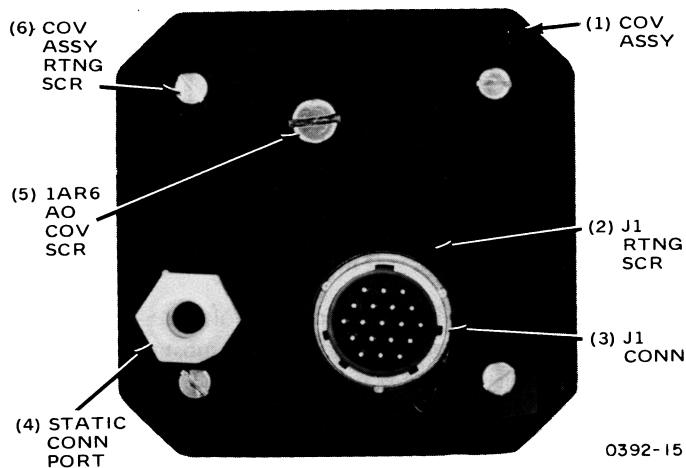

Figure 5-5. Encoding Altimeter Cover Assembly, Rear View
If local altitude is well above sea level, removal of A1R6 cover screw (2, figure 5-5) will cause sudden evacuation of pressure within Encoding Altimeter. Avoid this condition by adjusting Mensor to supply local atmospheric pressure before removing A1R6 cover screw.
- Step 6. If local altitude is at or near sea level, remove A1R6 cover screw. (5, figure 5-5). If local altitude is well above sea level, adjust Mensor to supply local atmospheric pressure before removing A1R6 cover screw. Let Encoding Altimeter dial pointer stabilize after A1R6 cover screw has been removed.
- Step 1. Remove six retaining screws (2, figure 5-5) for connector receptacle J1.
- Step 2. Remove one screw (5, figure 5-5) from access slot for potentiometer A1R6.
- Step 3. Remove four cover assembly retaining screws (6, figure 5-5).